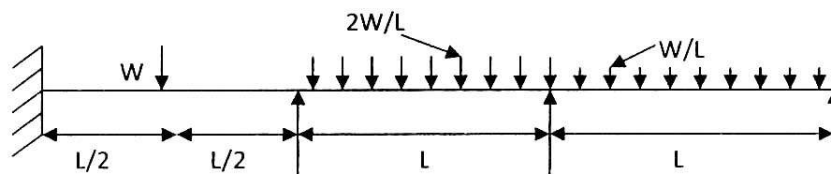

Fig. 1
1. Find out the collapse load for continuous beam shown in figure 1 of uniform cross-section. The value of M_p is constant for all the spans. (20)